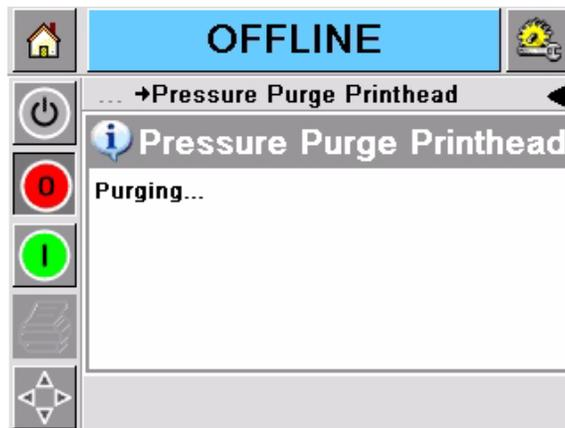

Figure 4-14: Purging
- 5 Purging operation begins (Figure 4-14 on page 4-15).